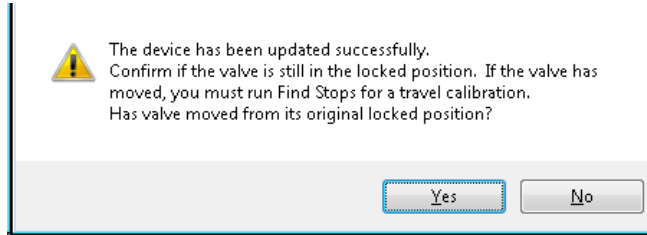

Figure 110 Device Update Successful
6. Once complete, Figure 110 appears.